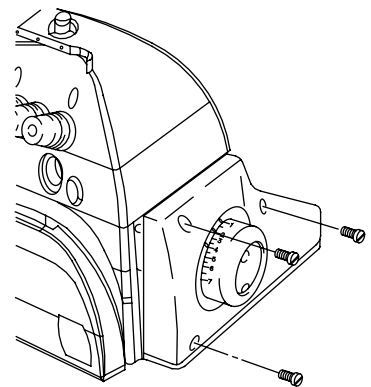

Figure 4
*Set the belt cover according to figure 4.*